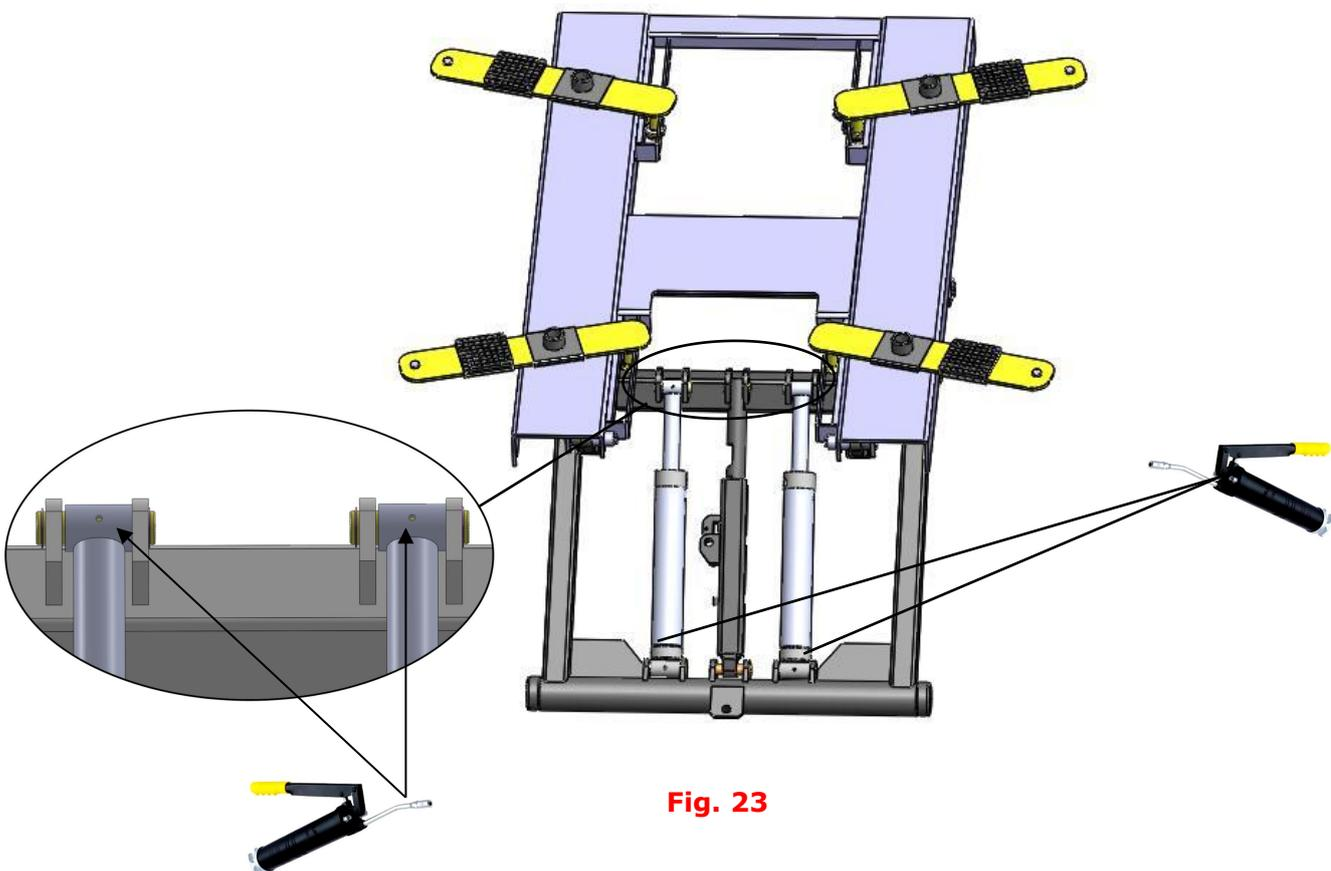

Fig. 23
1. Lubricate all moving parts with lubricant (See Fig.23).